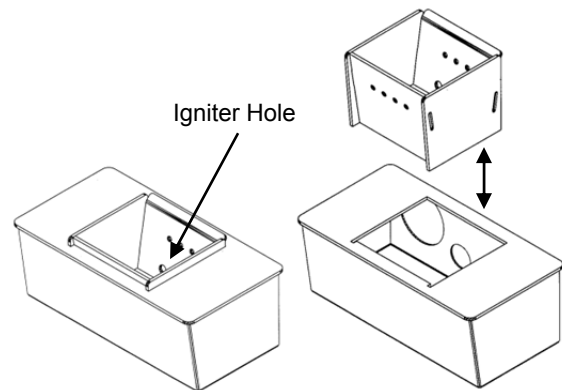

FIGURE 24
- Open door and remove the optional imitation log set, if in use. Remove the burnpots inner section by grasping it and pulling straight up (see Figure 24).
- Replace inner section into burnpot; make sure it is level and pushed all the way back down and that the igniter hole is to the rear when it is reinstalled (see Figure 24).
- With the door closed clean heat exchanger tubes. (See “**CLEANING**” and Figure 24).